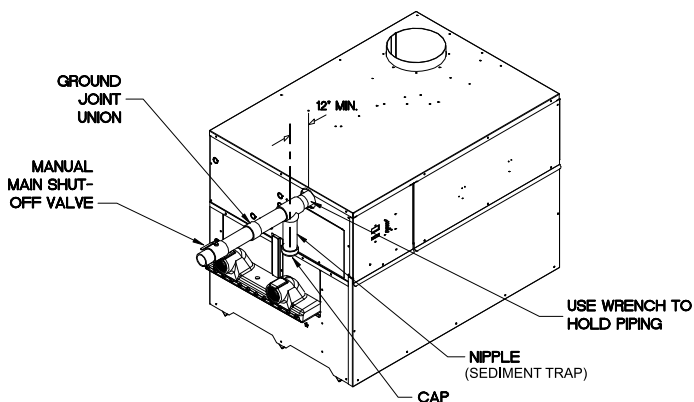

Figure 28 – Gas Line Connection
6. Install a sediment trap in the supply line to the pool heater's gas inlet (see Figure 28).